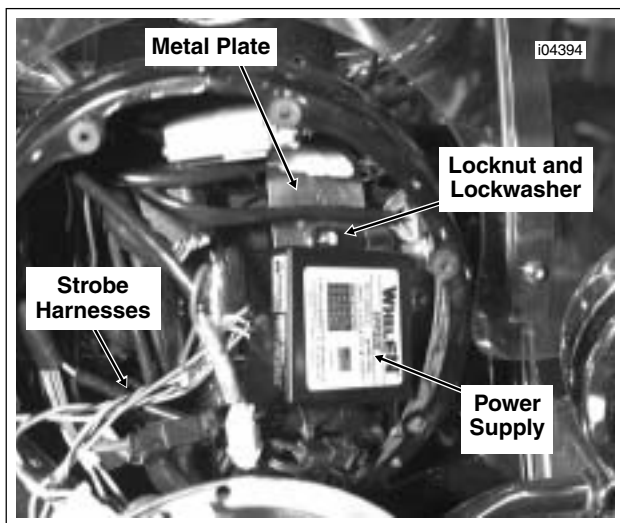

Figure 8-11. Mount Strobe Power Supply (FLHP)
- a. See Figure 8-11. Locate the metal plate on which the power supply will be mounted. Remove the black plastic wire retainer (Christmas Tree) from the hole in the plate.